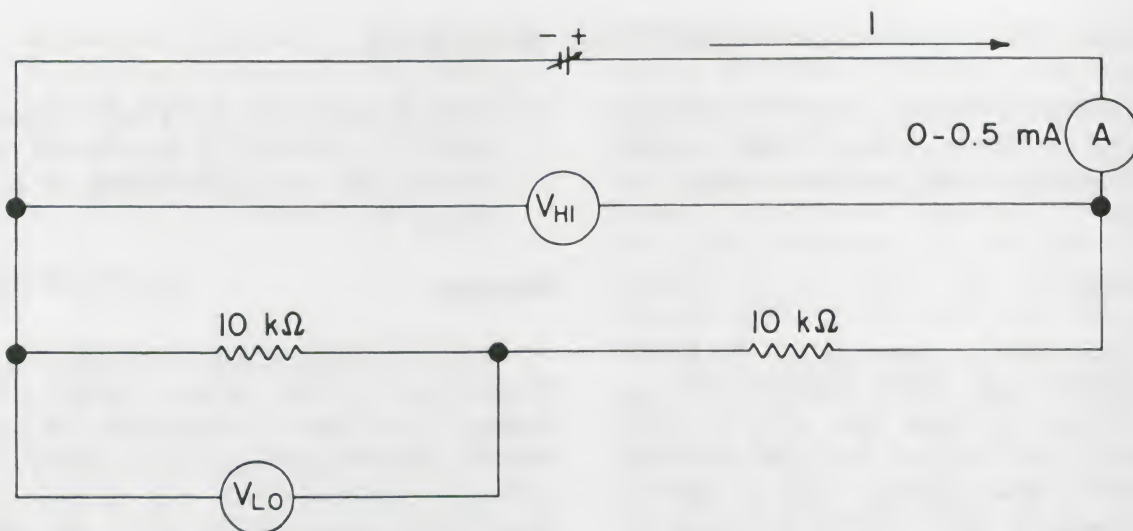

Figure 53.
1. Wire a circuit consisting of a DC-power supply, two 10-k $\Omega$  resistors, a 0 to 0.5-mA ammeter, and a 0 to 15-V voltmeter, as shown in Figure 53. The 0 to 5-V low-sensitivity voltmeter will be connected later. Get the sensitivity of each meter, either by reading it from the meter itself or by getting it from your teacher. The meters we have used have sensitivities of 10 k $\Omega$ /V and 2 k $\Omega$ /V, and we have called them  $V_{Hi}$  and  $V_{Lo}$ , respectively. Label your two voltmeters in like manner.
When the low-sensitivity voltmeter  $V_{Lo}$  is connected to the circuit, current and voltage readings change considerably. If you used the circuit values suggested in Figure 53, you probably found that the current increased from about 0.3 mA to 0.4 mA, and the voltage measured across  $R_1$  decreased from 3 V to 2 V. These sizeable changes amount to about 33% of the original values. They should not be ignored. Can you account for the changes you observed in the meter readings? Before actually analyzing your data, think about how connecting a meter to a circuit can affect the values of current and voltage.